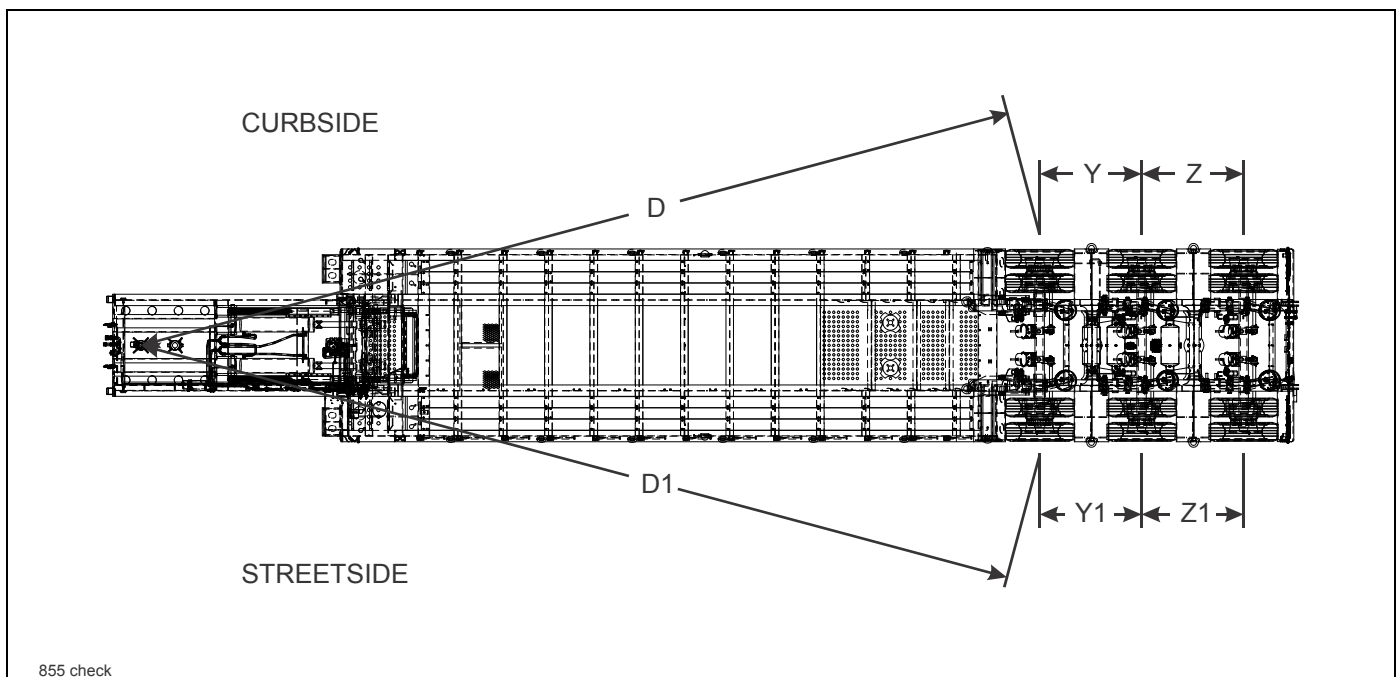

Figure 4-9: Checking Axle Alignment
4. Measure (D) from the plumb bob to the center point on one end of the axle. Record this measurement **(See Figure 4-9.)**
5. Measure (D1) to the other end of the axle in the same manner as in **step 4**. Record this measurement **(See Figure 4-9.)**